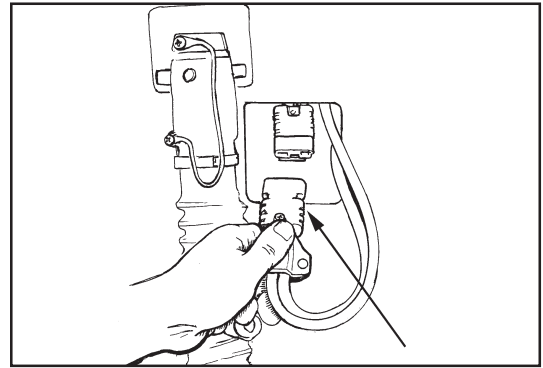

Figure 14A
4. Disconnect the battery pack connector from the control housing connector. See figure 14A.